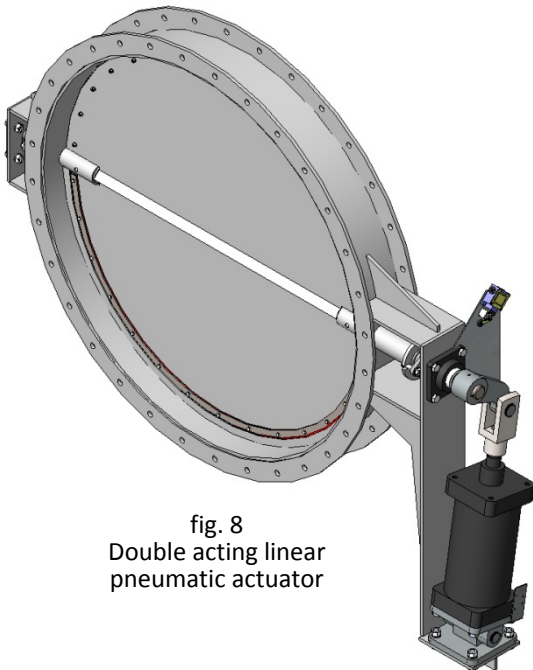

fig. 8
- There are also the linear pneumatic cylinders (fig. 8). This type of actuator is mounted on a rod on the actuator shaft in order to convert the linear movement generated by the cylinder into rotational movement and turn the swing check.